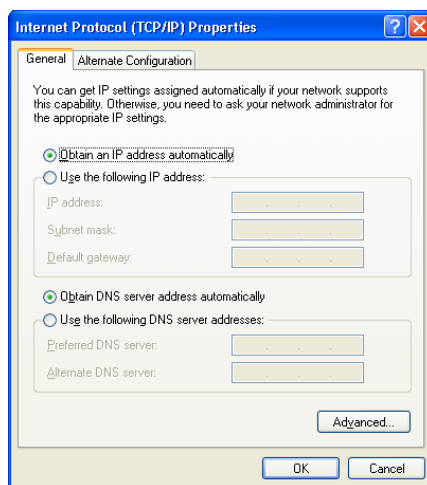

Figure 3. Set PC network properties to automatic for the WiFi Internet Adapter.
3. Open the Internet Protocol (TCP/IP) Properties of the PC network port. Set “Obtain an IP address automatically” as in Figure 3 for the WiFi Internet Adapter setup. Also make sure the “Obtain DNS server address automatically” button is selected.
- b. Automatically (DHCP enabled).** At the AR2 site, enter the AutoRAE 2 network setting menu. (See Figure 3.) Enable the DHCP function of the AutoRAE 2 Controller Ethernet port then exit to AR2 normal mode. Keep the PC wireless port setting as shown in Figure 3 (that is, set it to get the IP address automatically).